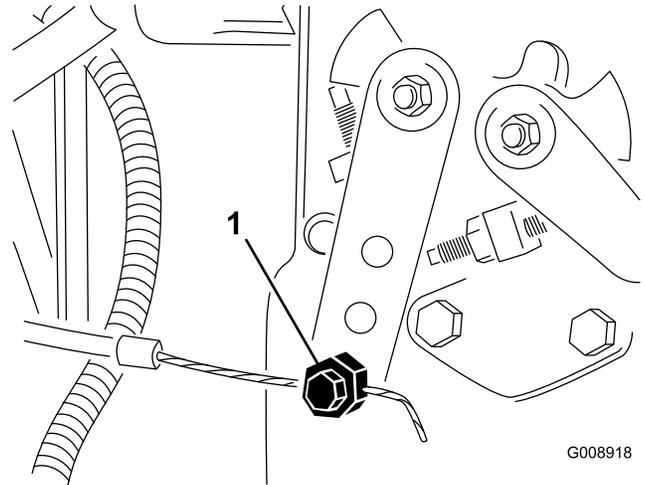

Figure 55
2. Loosen the throttle cable connector on the injection pump lever arm (Figure 55).